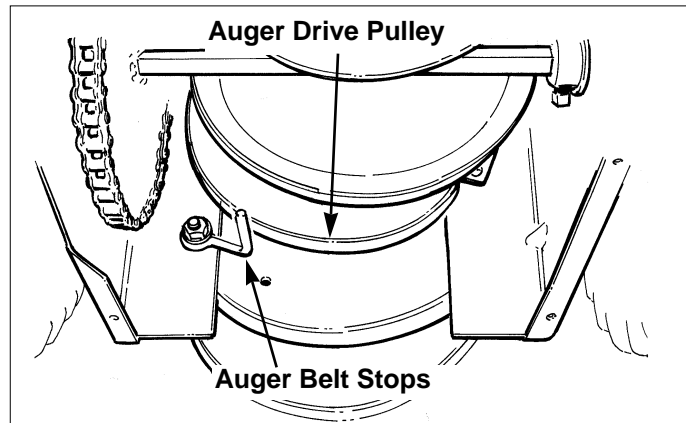

Figure 24. Auger Drive Pulley and Belt Stops
8. Loosen hex screws securing belt stop (Figure 24), and pivot the belt stop away from the pulley to permit removal of belt.